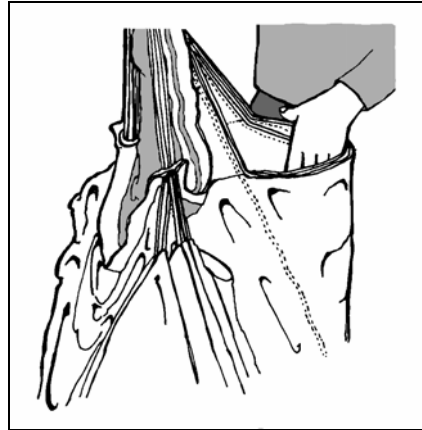

Figure 5.
Step 7.) Step out from between the line groups and hold them in one hand. Clear the bottom seams of each cell with the "knife edge" of the hand. (See Figure 5.) This must be done between the "A", "B", "C", and "D" line groups. Clear the four seams of each cell to the left and right. After all the seams are cleared on each side of the canopy, clear the trailing edge between the control lines.